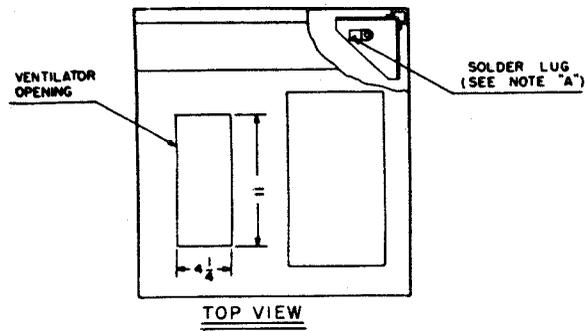

**Figure 3-7. Keyer KY-79/UR, Rear View, Pre-Operation Adjustments**
e. INITIAL ADJUSTMENT OF KEYER KY-79/UR. (See figures 3-7, 4-5.)
(1) AUDIO OSCILLATOR FREQUENCY ADJUSTMENTS.—Turn on power switches on relay rack Switch Panel SA-238/G and on Keyer KY-79/
UR. To check the frequencies of the internal audio oscillator, a suitable standard of audio frequencies, such as a signal generator, is necessary. Compare audio output of Keyer KY-79/UR to standard frequencies and adjust the proper trimmer capacitor, located at the rear of Keyer KY-79/UR as shown in figure 3-7, until the desired accuracy is obtained.
(e) Adjust BAL potentiometer R27 at the rear of the Keyer KY-79/UR, as shown in figure 3-7, for